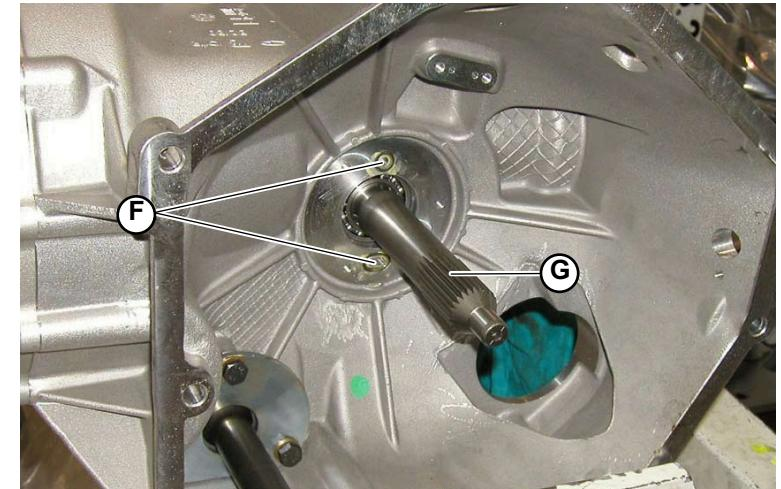

Fig.9
- Assemble the two O-rings (**F-Fig.9**) on the clutch bell seat with Kuril K2.
- Before inserting the clutch sleeve unit on the gearbox, completely protect the grooved profile of the shaft with tape (**G-Fig.9**); start wrapping the tape at the gearbox.